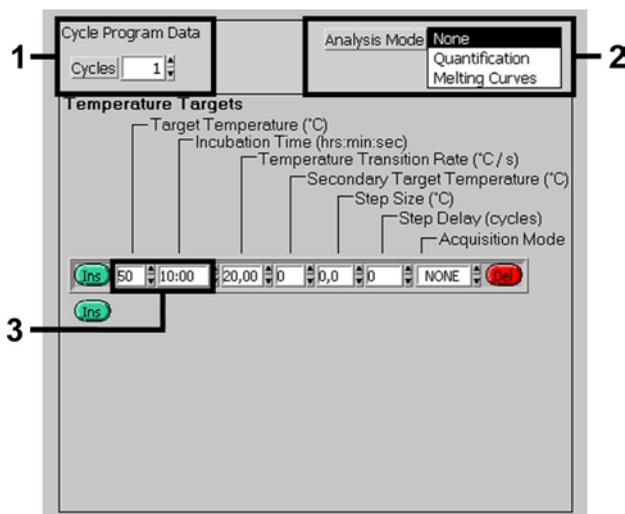

Fig. 3: Reverse Transcription of the RNA.
For the detection of WNV RNA, create a temperature profile on your *LightCycler* Instrument according to the following four steps (see Fig. 3 – 6).
- A. Reverse Transcription of the RNA Fig. 3